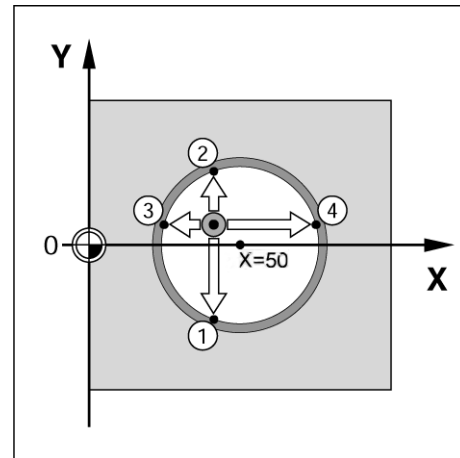

Fig. I.35 Setting the center of a hole
**Example: Probe the center of a hole with an edge finder and set the datum, 50 mm from the circle's center. See Fig. I.35 & Fig. I.36.**